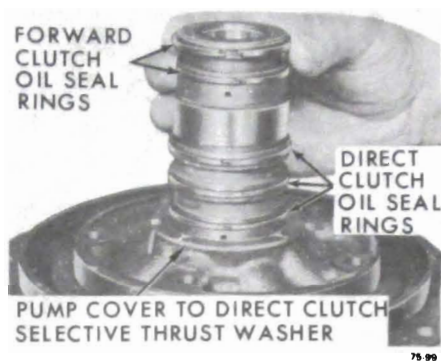

Figure 75-138
4. Remove two (2) forward clutch to pump hub hook type oil seal rings. Remove three (3) direct clutch to pump hub hook type oil rings. Remove pump cover to direct clutch drum selective thrust washer. See Figure 75-138.